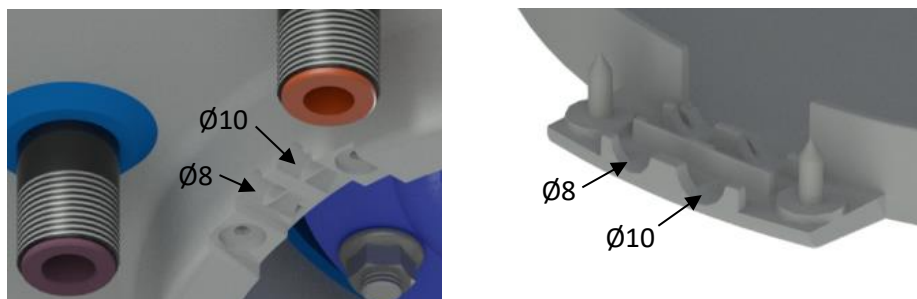
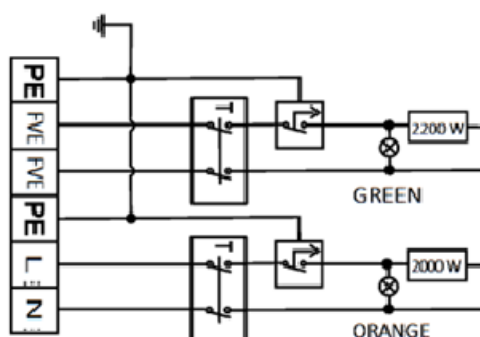

Figure 7
Figure 8
Connect according to the connection diagram. The factory wiring must not be changed! (Figure 8). Remove the partition in the electrical installation cover corresponding to the diameter of the supply cable $\varnothing 8$ or $\varnothing 10$ (Figure 7). The degree of protection of the electrical parts of the heater is IP 44. The power consumption of the electric elements is 2200 W and 2000 W for the OKCE 2/2 kW heater.
- The electrical connection diagram is also attached to the heater on the electrical installation cover (Figure 8).